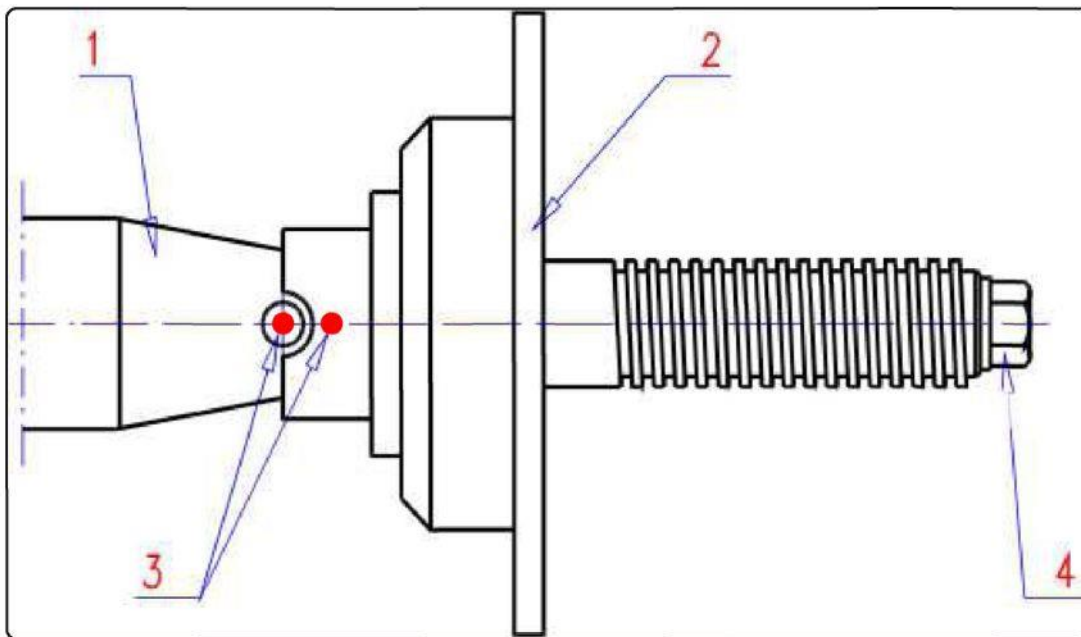

Fig. 5.2 Holder for car wheels (with no nut, cone or bushings)
An assembled holder for car wheels with rims having a central mounting hole is shown in fig. 5.2.
For proper holder mounting, the holder's bar with a matching base (1) should be placed on the machine's spindle (1 in fig. 5.2). Secondly, the holder's axis (3) is to be screwed to the spindle using the shorter thread and tightened using a size 22 wrench.